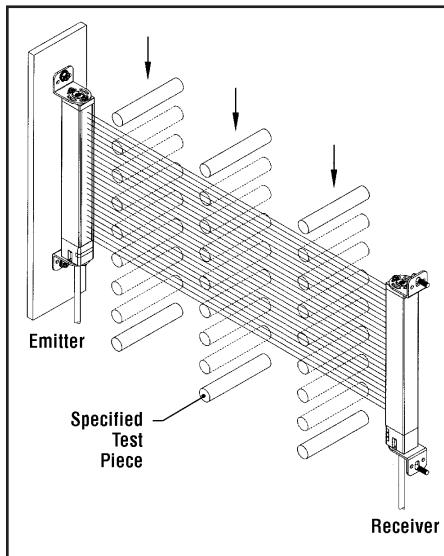

Figure 30. Use of Test Piece
- With the guarded machine at rest, slowly pass the appropriate specified test piece downward through the defined area at three points, taking care to hold the test piece perpendicular to the defined area: close to the receiver column, close to the emitter column, and midway between the emitter and receiver columns (Figure 30). In each case, the red status indicator should come ON and remain ON for as long as the test piece is within the defined area. When the test piece is withdrawn from the defined area, the green status indicator should come ON. If the green indicator comes ON at any time when the test piece is within the defined area, check for reflective surfaces, or unguarded areas created by use of fixed blanking (see Warnings, page 49). **Do not continue until the situation is corrected.** (See section 3.2.2 and 3.2.4.)
- b) With the guarded machine at rest, pass the *appropriate specified test piece* downward through the defined area at three points, perpendicular to the defined area: close to the receiver column, close to the emitter column, and midway between the emitter and receiver columns (see Figure 30). In each case, the red indicator must come ON and remain ON for as long as the test piece is within the defined area. When the test piece is removed from the defined area, the green status indicator should come ON (if blanking is ON, the green status indicator will be flashing). If the green status indicator comes ON at any time when the test piece is within the defined area, check for reflective surfaces, or unguarded areas created by the use of fixed blanking (see Warnings, page 49). **Do not continue until the situation is corrected.** (See Section 3.2.2 and 3.2.4).